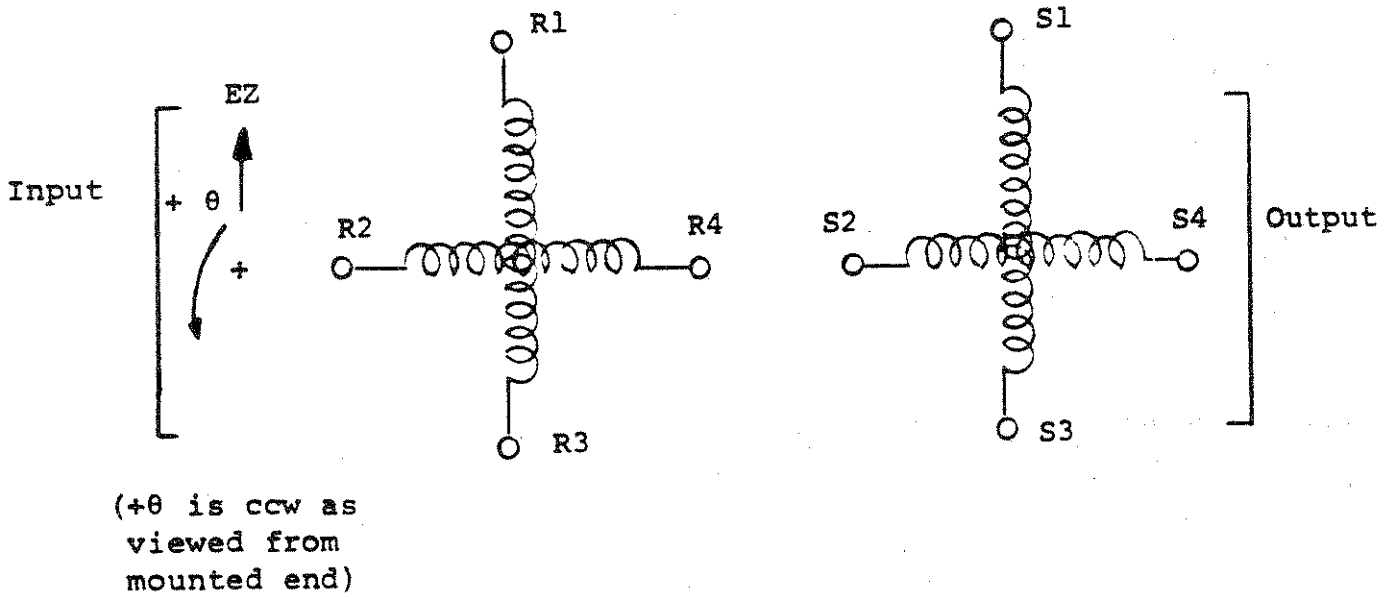
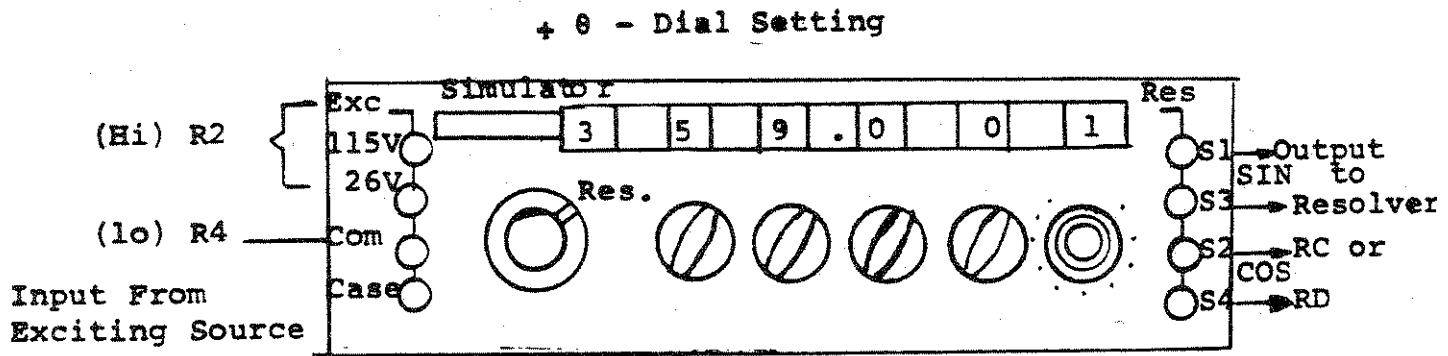
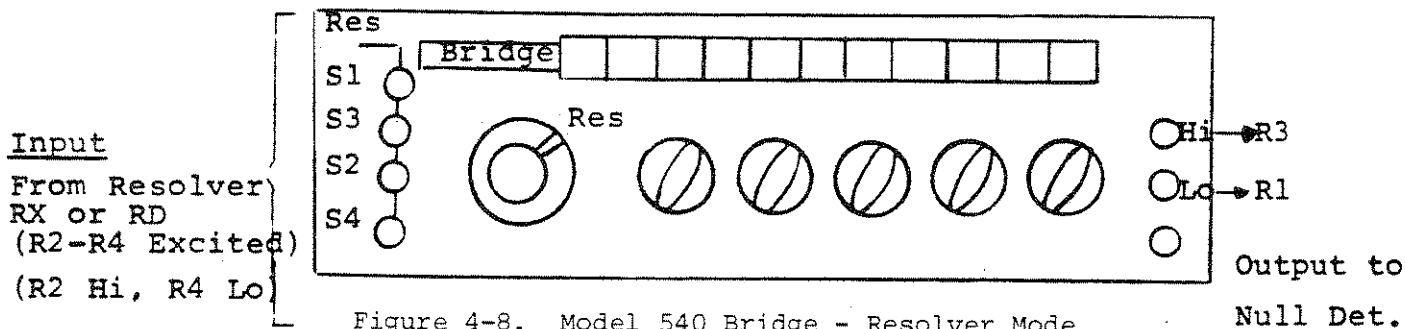

Figure 4-5. Rotor Excited Resolver at EZ, RX, RC, or RD
Figure 4-6. Model 530 Simulator - Resolver Mode
Figure 4-8. Model 540 Bridge - Resolver Mode
The schematic representation for a Resolver Transmitter (RX), Resolver Control Transformer (RC), or a Differential Resolver (RD) with the rotor excited is shown in figure 4-5. Input and output can be reversed for stator excited schematic.
The input and output terminals of the Model 530 simulator in the resolver mode is analogous to that of a rotor excited Resolver Transmitter (RX). The connections which correspond to those shown in figure 4-5 are illustrated in figure 4-6 for a Model 530 Simulator in the resolver mode.
The input and output terminals of the North Atlantic Series 540 Resolver Bridge in the resolver mode are analogous to those of a stator excited resolver Control Transformer (RC). The connections which correspond to those shown in figure 4-5 are illustrated for a Model 540 Bridge in figure 4-8.